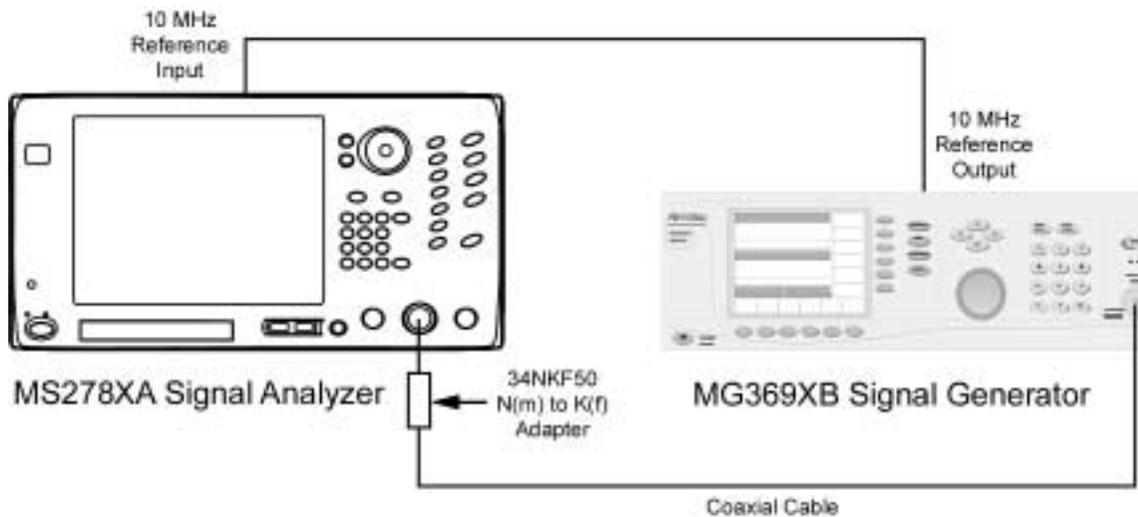

Figure 3-5. Equipment Setup for Single Sideband Phase Noise Test
- Step 1.** Set up the instrument as shown in Figure 3-5.